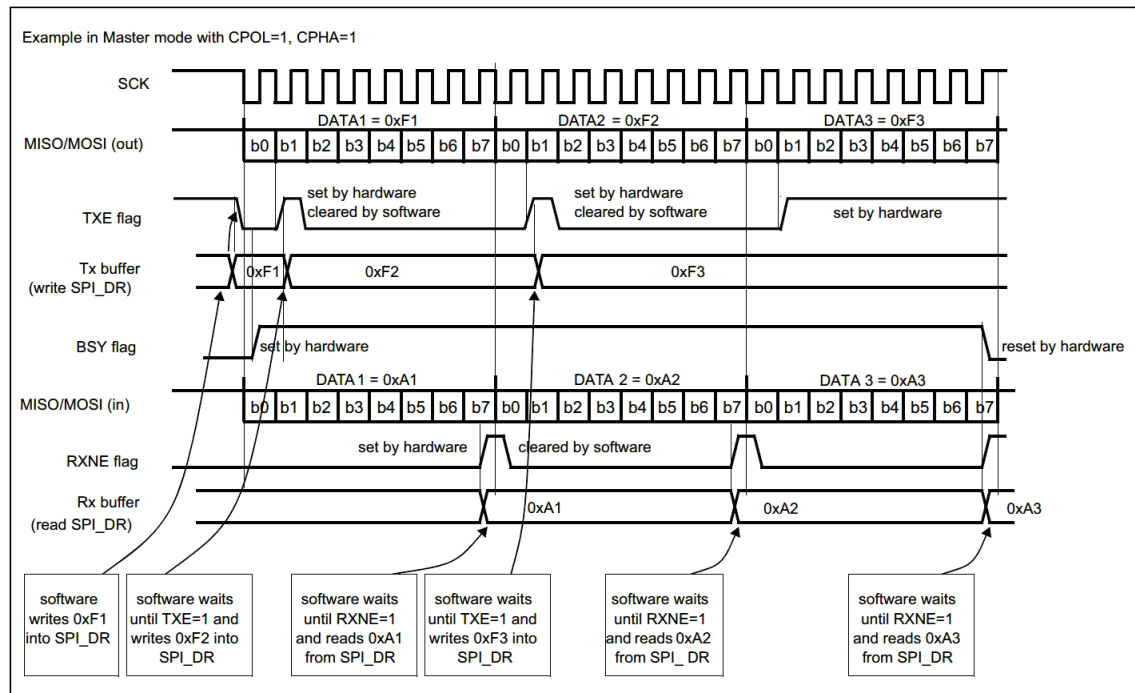
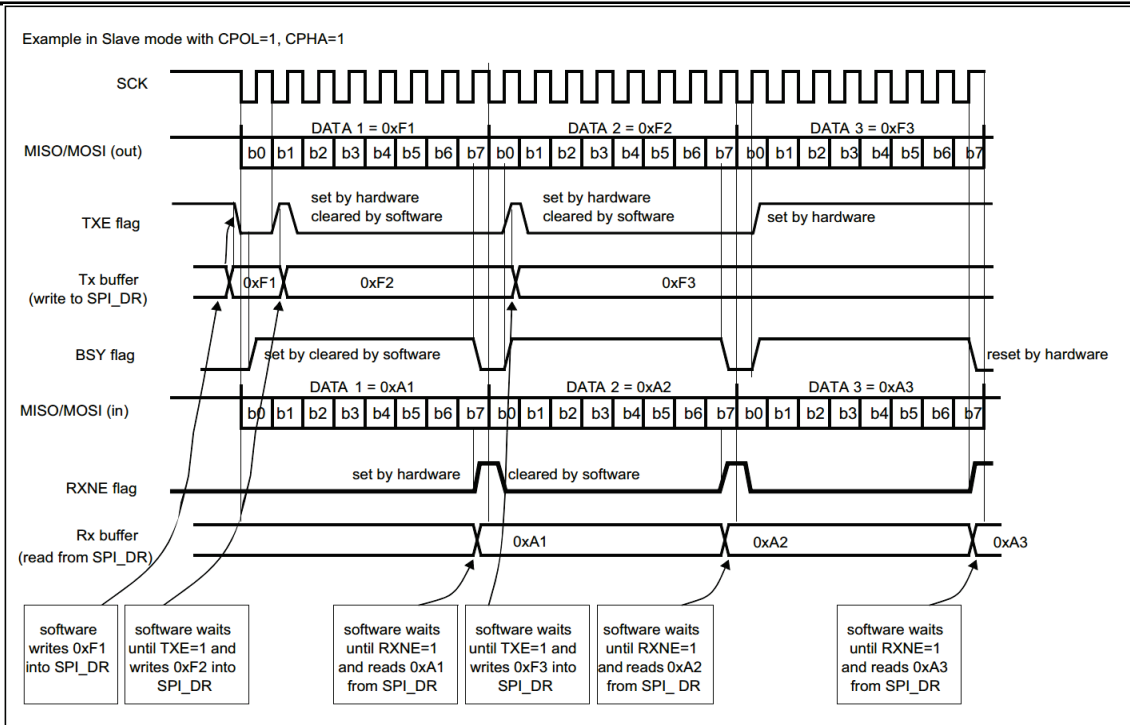

Figure213 Diagram of TXE/RXNE/BSY changes during continuous transmission in main mode, full duplex mode (BIDIMODE=0 and RXONLY=0)
Figure214 Schematic diagram of TXE/RXNE/BSY changes during continuous transmission in slave mode, full duplex mode (BIDIMODE=0 and RXONLY=0)
2. The CPOL and CPHA bits are selected to define the phase relationship between the data transfer and the serial clock (see Figure 213). To ensure proper data transfer, the CPOL and CPHA bits must be configured the same way for both the slave and master devices.
The software must follow the process described below to send and receive data (see Figure213 and Figure214 ):